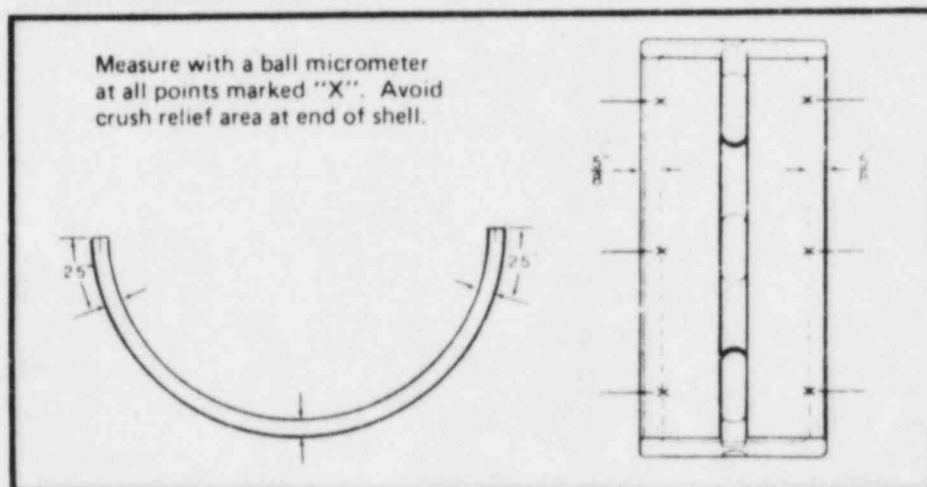

Figure 6-C-5. Measuring Bearing Shell Thickness
- b. Measure thickness of bearing shells. Use a ball micrometer and measure each shell at six points, as indicated in Figure 6-C-5. Refer to Appendix III for permissible limits.